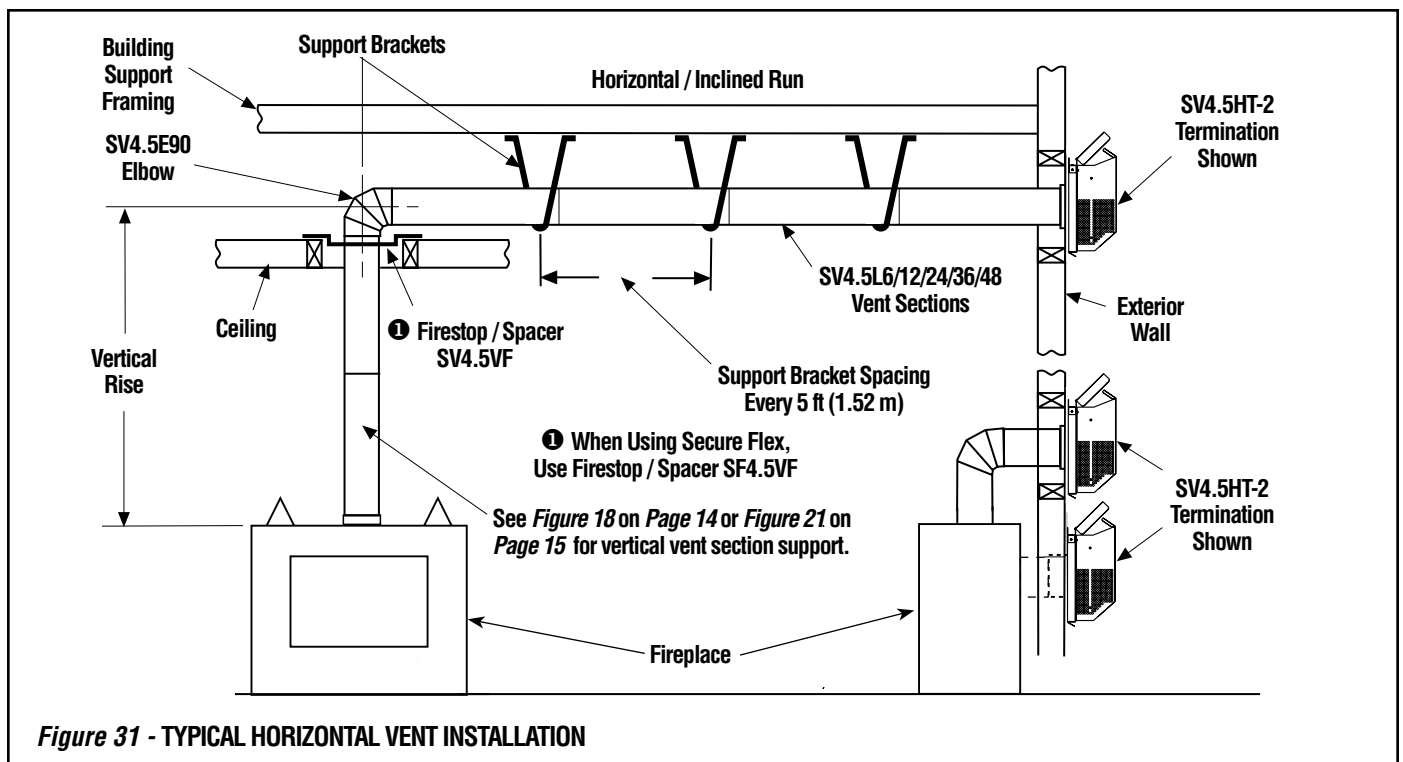

Figure 31 - TYPICAL HORIZONTAL VENT INSTALLATION
G. Continue installation of horizontal/inclined sections - Continue with the installation of the straight vent sections in horizontal/inclined run as described in **Step C**. Install support straps every 5 ft. (1.52 m) along horizontal/inclined vent runs using conventional plumber's tape. **See Page 19, Figure 31. It is very important that the horizontal/inclined run be maintained in a straight (no dips) and recommended to be in a slightly elevated plane, in a direction away from the fireplace of 1/4" rise per foot (20 mm per meter) which is ideal, though rise per foot run ratios that are smaller are acceptable all the way down to at or near level.** Use a carpenter's level to measure from a constant surface and adjust the support straps as necessary.
Figure 31, and Figures 34 to 40 on Pages 21 to 23 and their associated Horizontal Vent Table illustrate the various horizontal venting configurations that are possible for use with these appliances. **Secure Vent** pipe applications are shown in these Figures; **Secure Flex** pipe may also be used. A Horizontal Vent Table summarizes each system's minimum and maximum vertical and horizontal length values that can be used to design and install the vent components in a variety of applications.
I. Continue installation of horizontal/inclined sections - Continue with the installation of the straight vent sections in horizontal/inclined run as described in **Step E**. Install support straps every 5 ft. (1.52 m) along horizontal/inclined vent runs using conventional plumber's tape. See **Figure 31**. **It is very important that the horizontal/inclined run be maintained in a straight (no dips) and recommended to be in a slightly elevated plane, in a direction away from the fireplace of 1/4" rise per foot (20 mm per meter) which is ideal, though rise per foot run ratios that are smaller are acceptable all the way down to at or near level.**